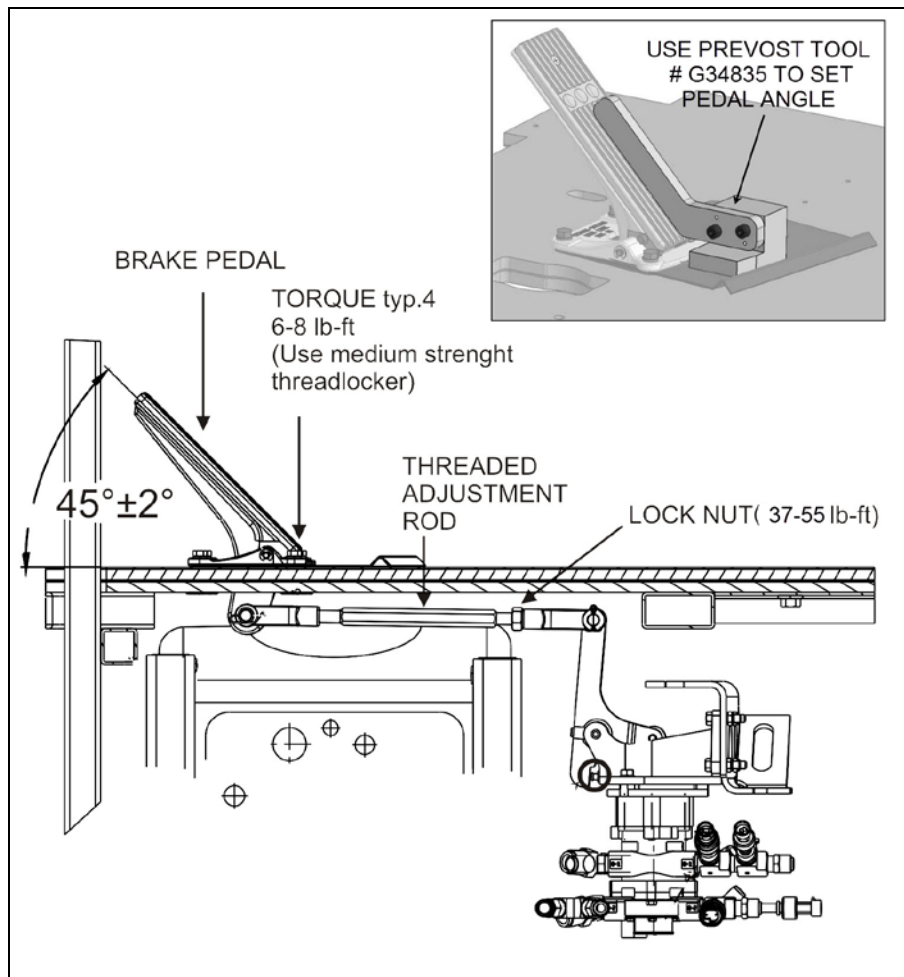

Fig.2 Brake pedal angle adjustment
1. Loosen threaded rod lock nut and turn the threaded rod CW or CCW in order to obtain a 45° brake pedal inclination. Use Prevost Tool # G34835 to ensure proper pedal angle as shown in Fig.2 above.
2. Tighten threaded rod lock nuts to **37-55 lb-ft (Fig.2)**.